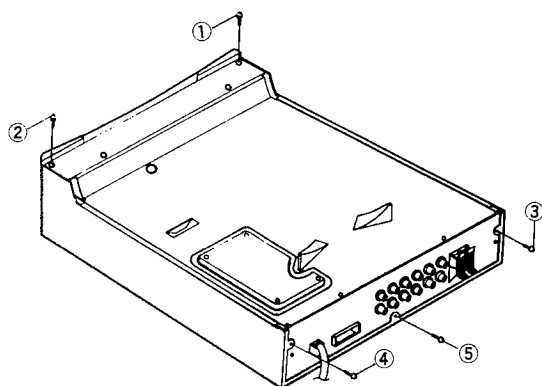

Fig. 1
1. Remove screws ① to ⑤ in Fig. 1
② Rear Panel Removal